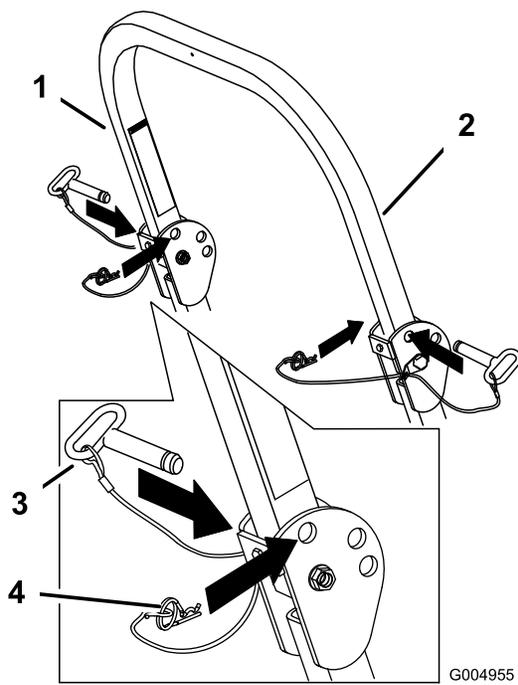

Figure 8
1. Remove the hairpin cotter pins and remove the 2 pins (Figure 8).
3. Install the 2 pins and secure them with the hairpin cotter pins (Figure 8).
4. To raise the roll bar, remove the hairpin cotter pins and remove the 2 pins (Figure 8).
5. Raise the roll bar to the upright position and install the 2 pins and secure them with the hairpin cotter pins (Figure 8).